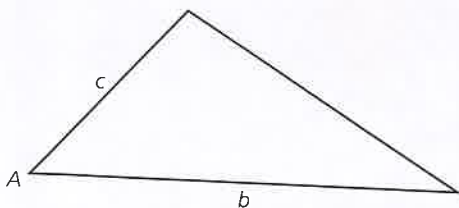

Figure 4.23a Two sides and an adjacent angle are given
- two sides and an angle adjacent to a side (see Figure 4.23a).